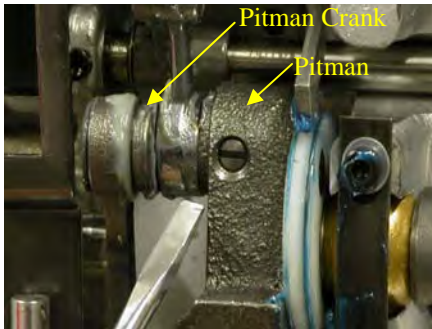

Figure 3.1
*Note: The screws are generally positioned 120 degrees apart. When the first screw (Position 1) has been located and tightened on a flat, the second screw is then tightened, compounding the tightness of the first screw, thus securing and assuring that timing will not change. (see figure 3.1)*